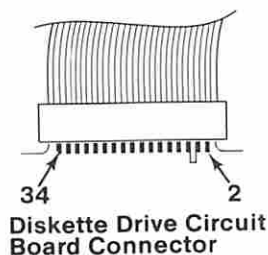

Figure 8. Voltage Check
- Power on the system and monitor the voltage at pin 28 on the failing diskette drive circuit board during the POST (Figure 8).